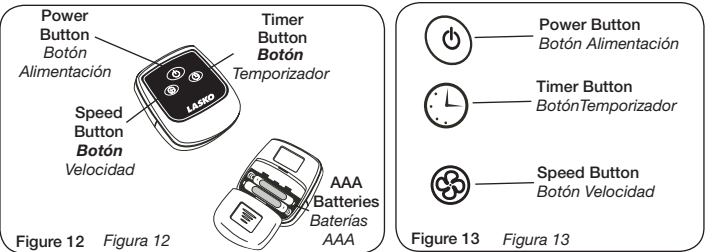

Figure 12: Remote control buttons. Figure 13: Remote control buttons.
1. Install batteries (not supplied) as shown in **Figure 12**. The battery is size "AAA".
This Fan may be operated by the Manual Controls located on front of the unit (shown in Figure 13) or by the Remote Control (shown in Figure 12).